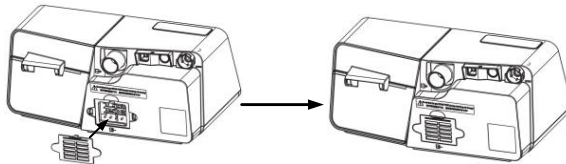

Fig. 18-9
(3) Install the filter cap containing the air filter to the device, as shown in Fig. 18-9.